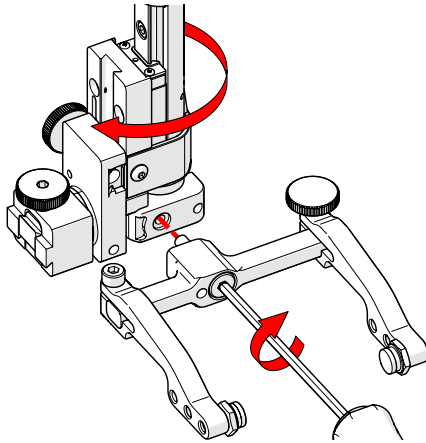

Fig. 82 - Screw yoke to opposite side
6. Mount the yoke to the opposite side of the base using the supplied 3 mm hex driver (Fig. 82).